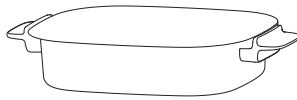

Fig 3
- ① Except for special requirements, crisper plate must be used during air frying, otherwise it may affect the cooking effect.
- ② Place the ingredients in a single layer on the crisper plate, do not stack them, otherwise it may affect the cooking effect.
3.Grill pan: grill pan is mainly used to fry or grill food.(Fig 3)